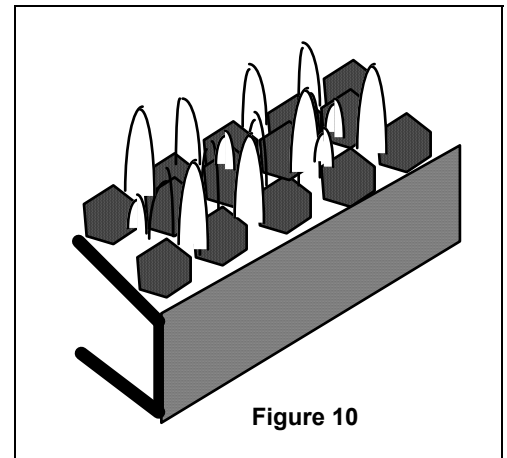

Figure 10
- A full bodied, lively flame. The flame will be blue at the base and a combination of blue and yellow at the body and tips. **Figure 10**.